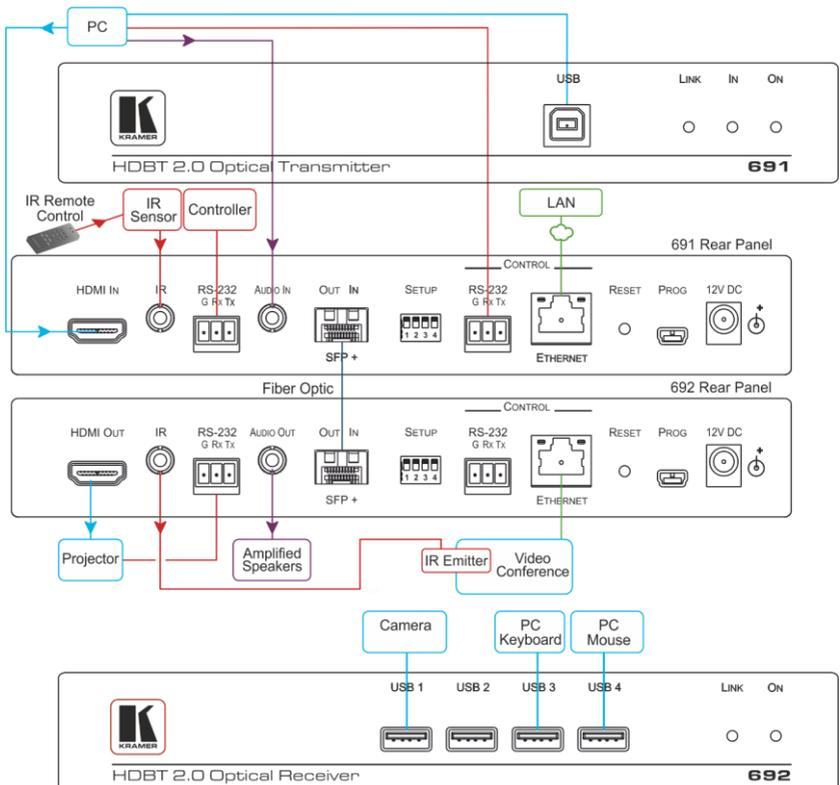

Figure 3: Connecting the 691 and 692
You can use the 691 HDBT 2.0 Optical Transmitter and a compatible receiver, for example, the Kramer 692 HDBT 2.0 Optical Receiver to configure a paired HDMI transmitter/receiver system, as shown in the example in Figure 3.
7. Connect the supplied power adapter to the power socket and plug the adapter into the mains electricity (not shown in Figure 3).